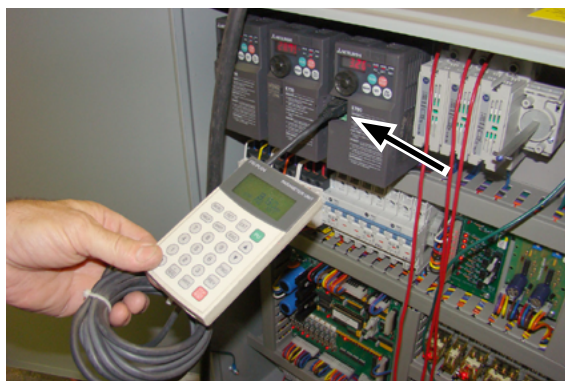

Figure 7-22: Plug the parameter unit into the communications port of Inverter 3.
13. Locate the exit conveyor inverter (Figure 7-22). As appropriate: